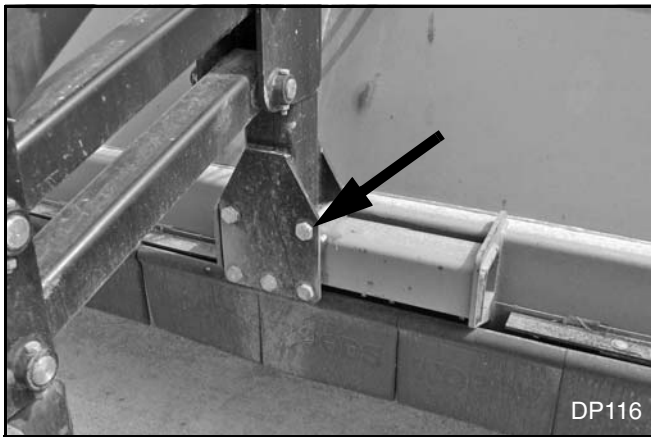

Figure 32. Positioning Wheel Assembly
8. Slide assembly along the frame tube to new position (see Figure 32).